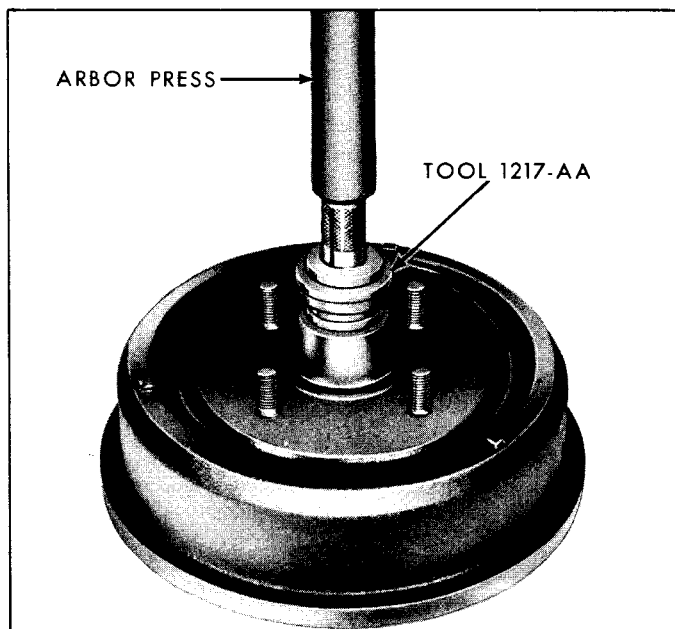

Fig. 1-4—Front Wheel Bearing Cup Installation—(60C-2804)
12. While supporting the hub, install the inner and outer bearing cups in the hub with Tool 1217-AA. See figure 1-4. **Be sure to seat the cups properly in the hub.**
end of Tool 1217-AA. See figure 1-4. Be sure that the retainer is properly seated.